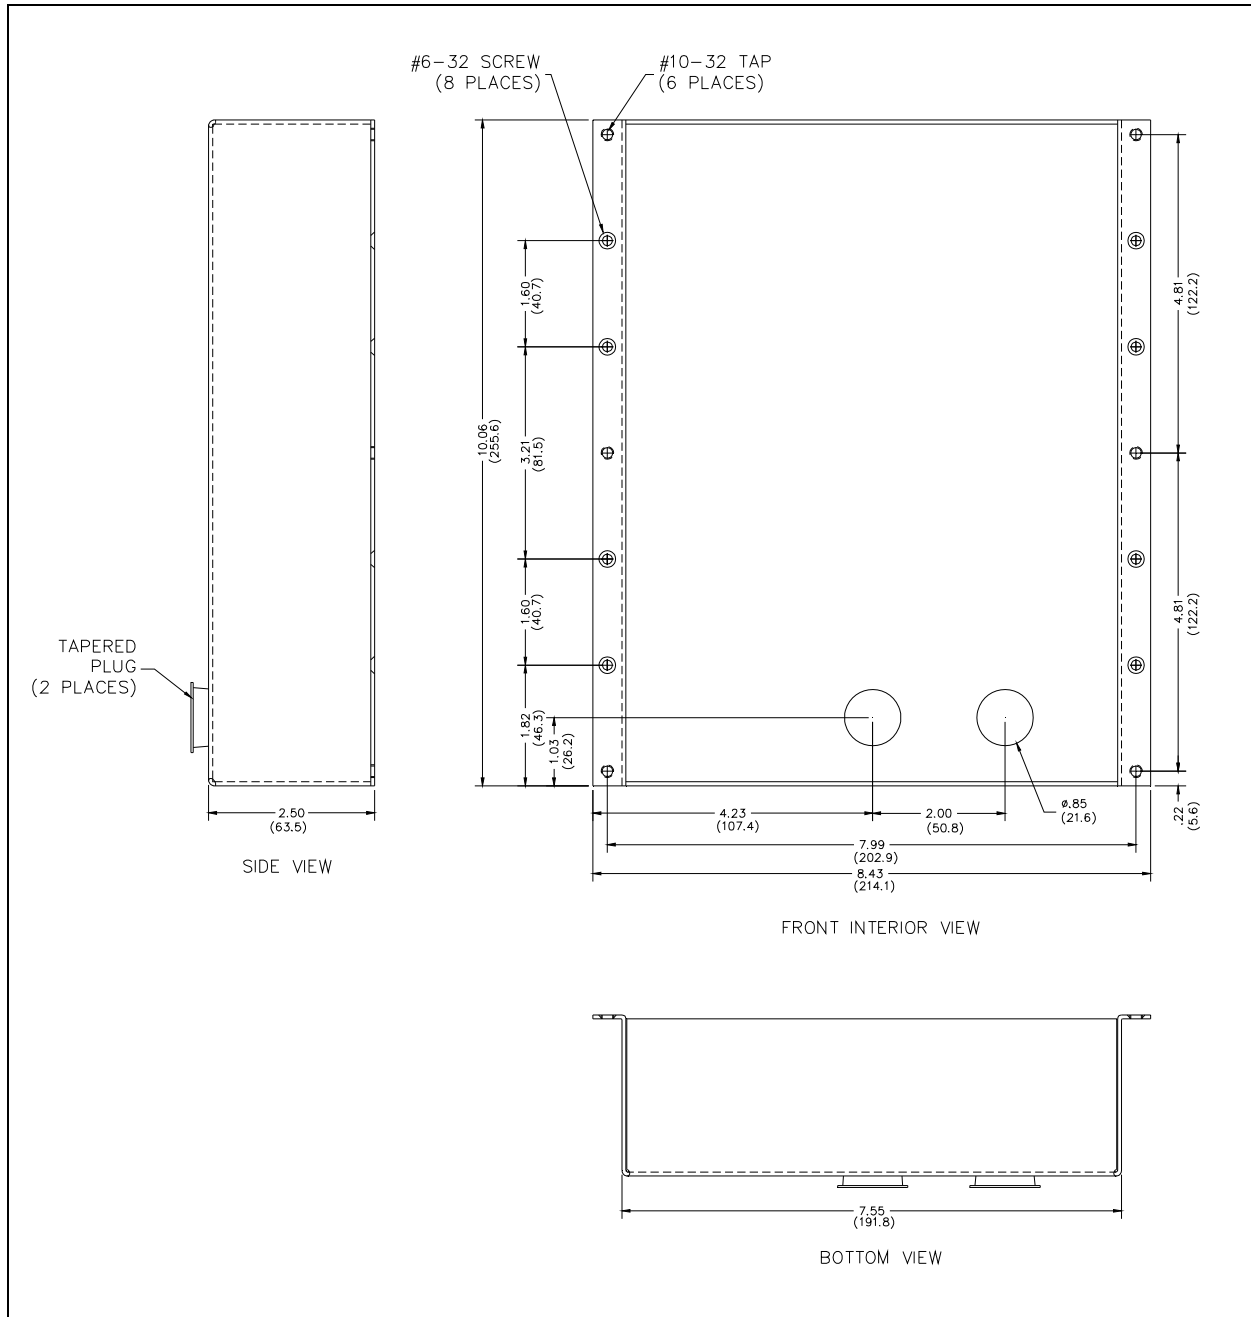
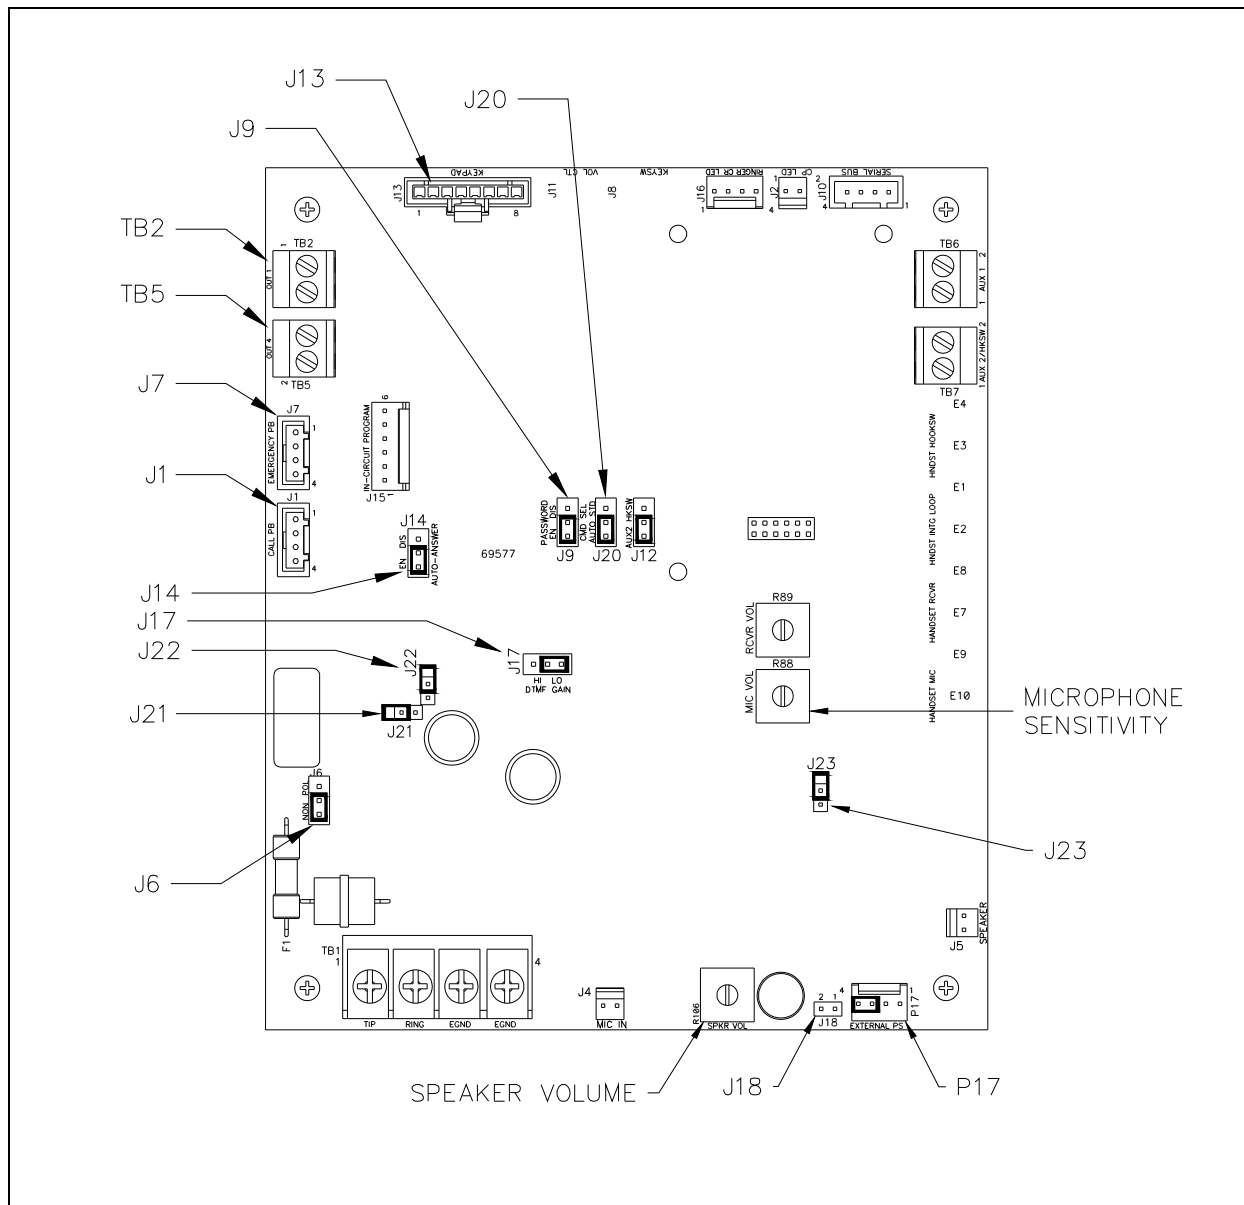

Figure 9. Model 397-00xAD Mounting Details
Figure 11. No. 69577-101 Telephone PCBA (Top View)
- Adjust the audio levels, if necessary. Refer to Figure 11 for "Speaker Volume" and "Microphone Sensitivity" potentiometer locations.
- When mounting in a GAI-Tronics Model 234 Series Stanchion, or for flush-mount installations, the supplied back box must be used. Mount the back box to the structure using appropriate hardware. Refer to Figure 9 cutout dimensions.
5. Connect the telephone's modular plug to a USOC RJ11 or CA11A (Canada) modular connector or (if applicable) the telephone line suppressor. An inline coupler is provided for use, if necessary. Refer to Figure 9 for mounting details and Figure 11 for component locations.
The Plug-in Power Supply is used for operations below  $-4^{\circ}\text{F}$  ( $-20^{\circ}\text{C}$ ) and requires 120 V ac input to provide a 5 V dc output to the unit. The Plug-in Power Supply is provided with a connectorized, 4-foot power cable that plugs into P17 on the telephone PCBA. Remove the jumper from P17 pins 3 and 4 and insert to the adjacent header J18 when using the plug-in power supply. See Figure 11 on page 16 for jumper locations.
The hardware configuration options are explained in detail in the following sections, and the necessary jumper settings are identified to enable or disable each option. Reading each section and recording the selected options prior to making the necessary changes is recommended. Create a record of your settings using Table 2 on page 15. See Figure 11 on page 16 for the jumper locations.
Each telephone includes two isolated solid state switches capable of switching a maximum of 48 V dc, 125 mA or 28 VRMS ac, 80RMS mA. TB2 (OUT1) and TB5 (OUT4) on the auto-dial telephone PCBA provides the connections for the auxiliary outputs. Refer to Figure 11 for the location of TB2 and TB5.
Each telephone is shipped with a plug-in power supply that requires a 120 V ac input to provide a 5 V dc output to the unit. The power supply is a connectorized, 4-foot power cable that plugs into P17 on the telephone PCBA. P17 must be vacated prior to plugging in the power supply. To do so, remove the jumper from P17 pins 3 and 4 and plug it into the adjacent J18 header. Refer to Figure 11 for connector locations.
Refer to Figure 11.